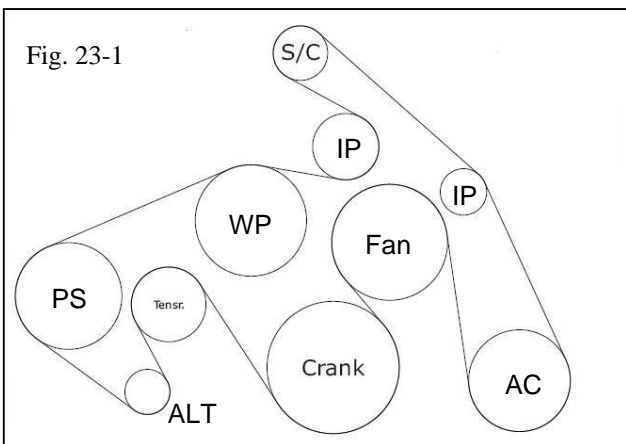

Fig. 23-1
- (a) Install the supplied drive belt (Item #9) following the outlined belt routing (Fig. 23-1). Ensure the belt is completely on all of the pulleys.